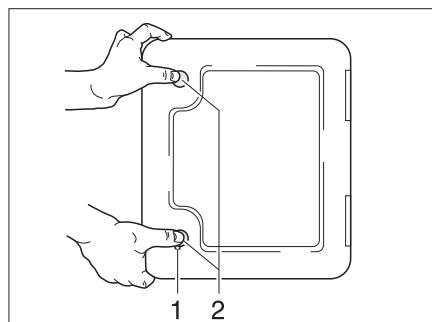

Fig. 160 Flap for Thetford cassette
The flap for the Thetford cassette (Bild 160) is located on the outside of the vehicle.
- Insert key into locking cylinder of the push-button lock (Bild 160,1) and turn a quarter turn clockwise.
- Press both push-button locks (Bild 160,2) simultaneously with your thumb and open the flap for the Thetford cassette.